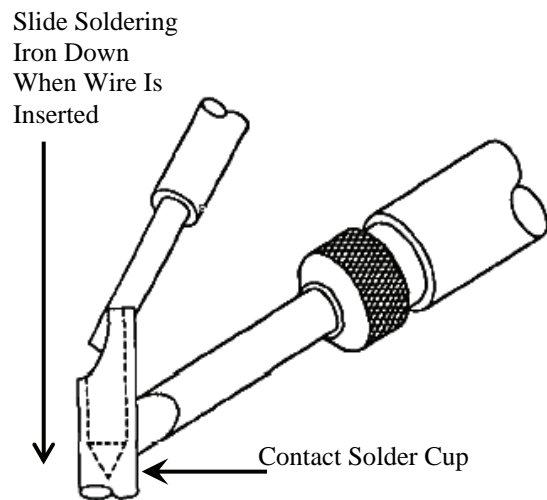

Figure 8. Inserting wire into Solder
- d. While maintaining contact solder cup at soldering temperature, insert wire into contact solder cup and slide heat source to base of contact solder cup (Figure 8).